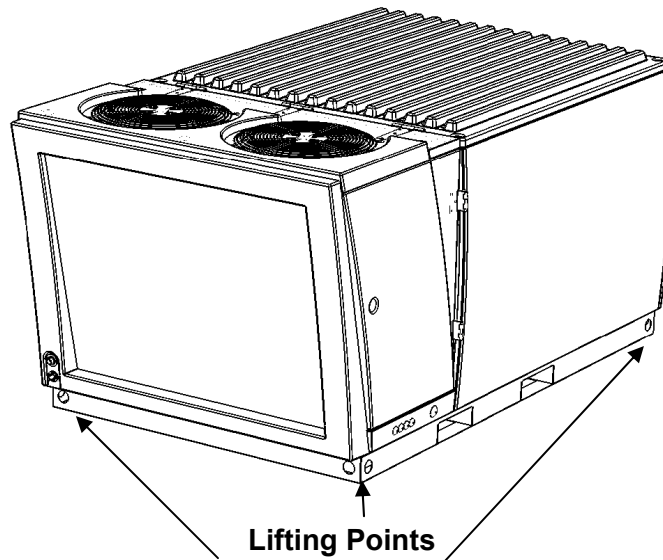

Figure 14 – Ice Bear[®] 30 Unit Lifting Points
1. Attach (4) SHACKLES and LIFT STRAPS (10’ long) using lifting points called out in Figure 14.